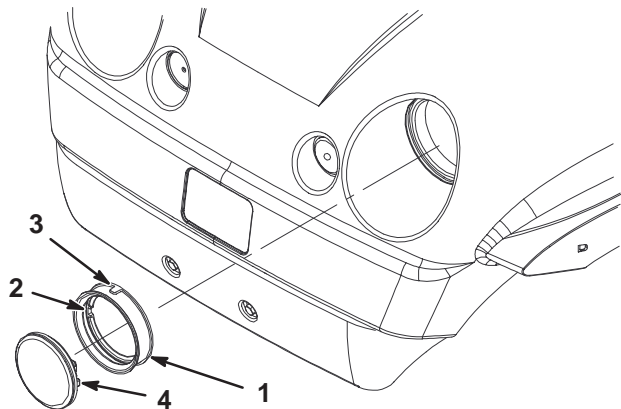

Figure 42
4. Remove the rubber seal from around the headlight (Fig. 42). Discard the headlight.
5. Align the notch on the inside of the seal with the notch on the new headlight (Fig. 42). Slide the seal onto the headlight until the seal is firmly in place.